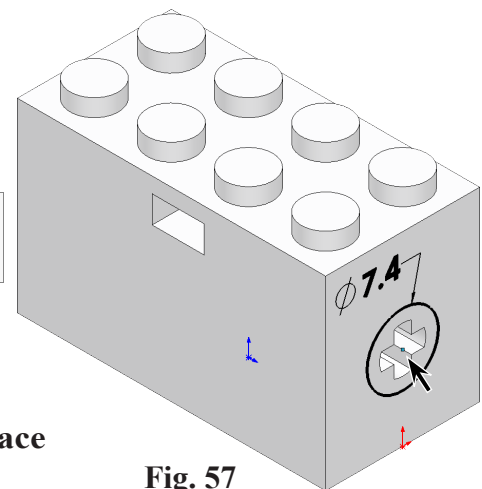

Fig. 57
block, Fig. 57.
Step 4. Click **Smart Dimension**  (S) on the Sketch toolbar.
Step 5. Dimension **diameter 7.4, Fig. 57.**